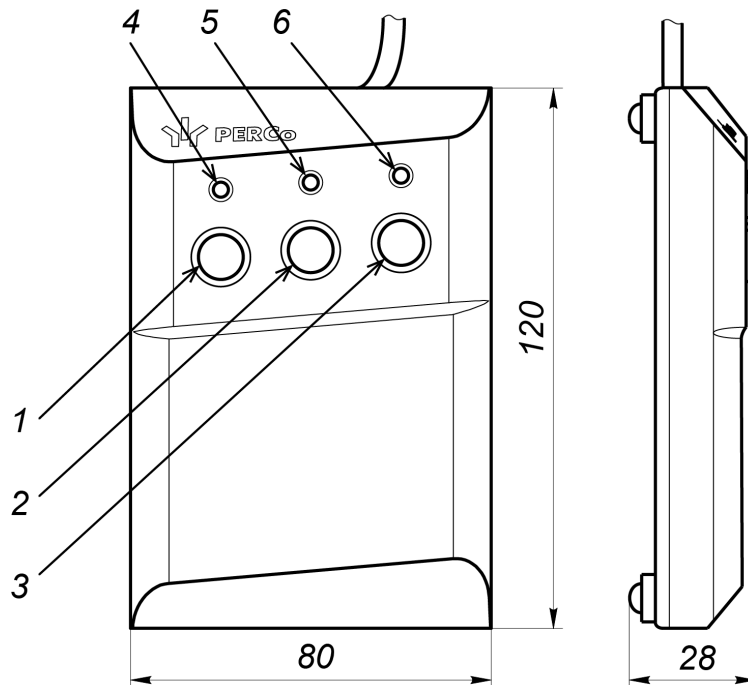

Figure 5. Overall view and overall dimensions of the RC-panel
The RC-panel (11) is a small desktop device packed in a housing made of impact-resistant ABS plastic. The RC-panel is designed to send commands by an operator when controlling the speed gate manually. Overall view of the RC-panel is shown in Fig. 5.